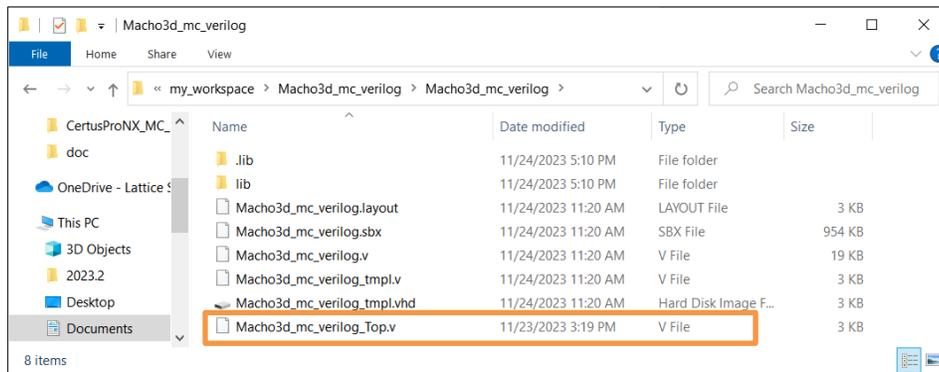

Figure 5.11. Top.v File in Source Project
- a. Copy top.v from the source project, which is used for the Diamond flow (Figure 5.11).